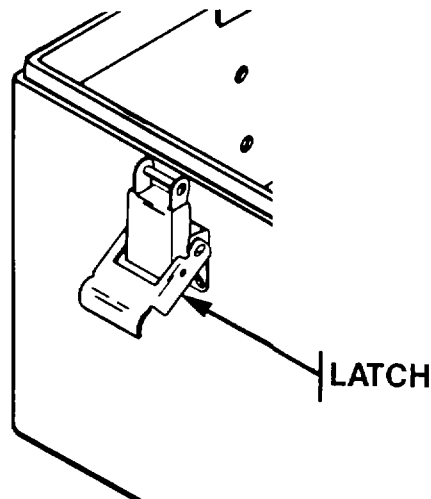

Figure 3-3. Pyrometer Case Latch
- c. Inspect case for latches that will not work properly (See Figure 3-3).